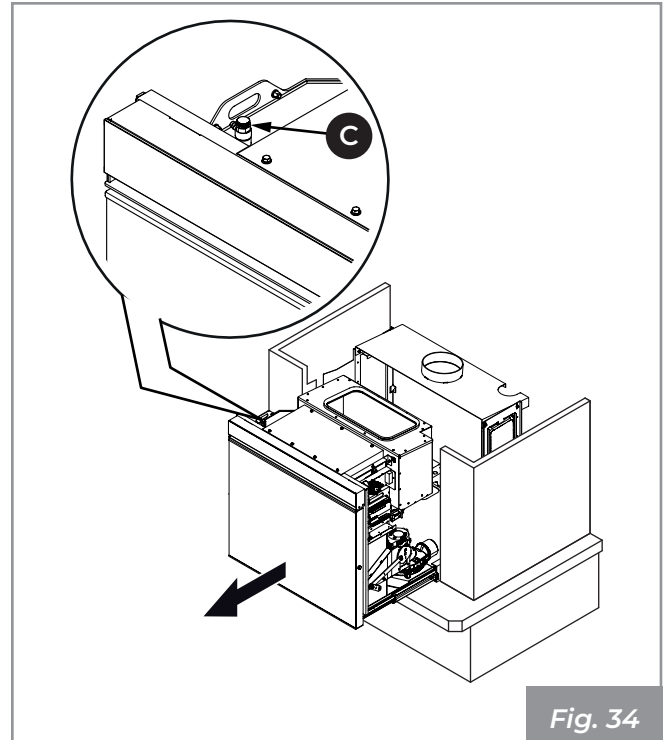
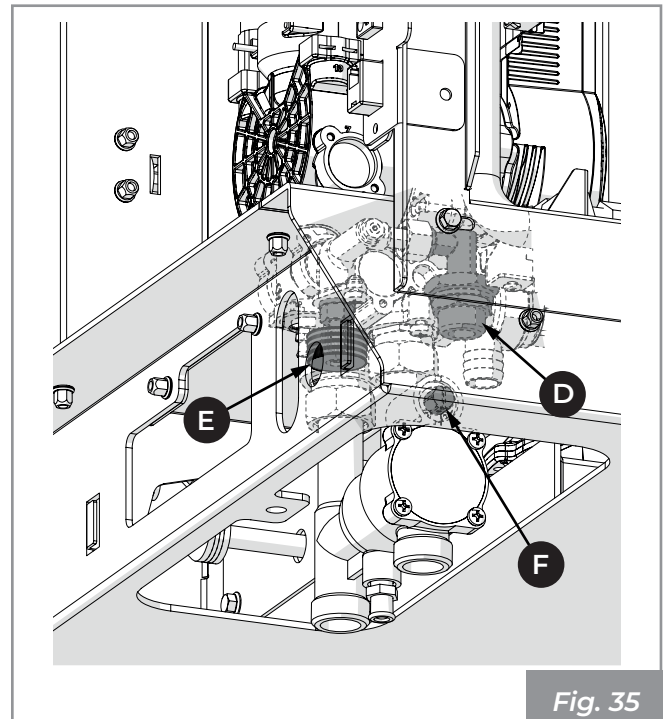
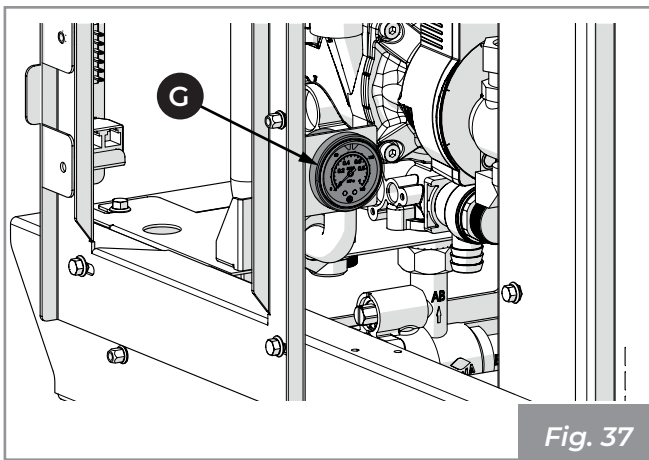

Fig. 34
Fig. 35
Fig. 37
- 4) Pull the appliance out until it reaches the end of the guides and loosen the relief valve cap **(C)** if the air in the boiler has to be removed during the system filling phase. **(Fig. 34)**.
- 5) Connect a water pipe coming from the aqueduct to the filling fitting **(D)**, open the relief valve **(C)** **(Fig. 34)**, open the filling tap **(E)**, thus allowing the water to flow until the appliance is completely full **(Fig. 35)**. Close the relief valve and wait for the minimum operating pressure to be reached (**1 bar**), which can be checked on the pressure gauge **(G)** **(Fig. 37)**.
- Open the relief valve (C) (Fig. 34) and open the bypass tap in the anti-condensation valve (F), to allow the water to flow until the boiler is completely full (Fig. 35). Close the relief valve and wait for the minimum operating pressure to be reached (1 bar), which can be checked on the pressure gauge (G) (Fig. 37).